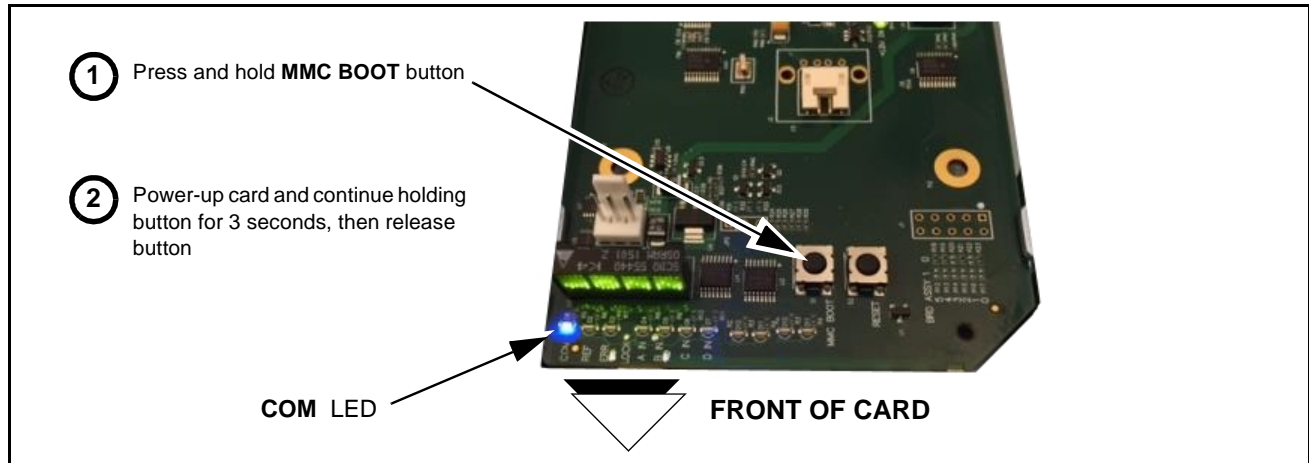

Figure 3-10 MMC Boot Button
2. (See Figure 3-10.) With card powered-down, locate the **MMC BOOT** button on the card. Proceed as shown in picture.